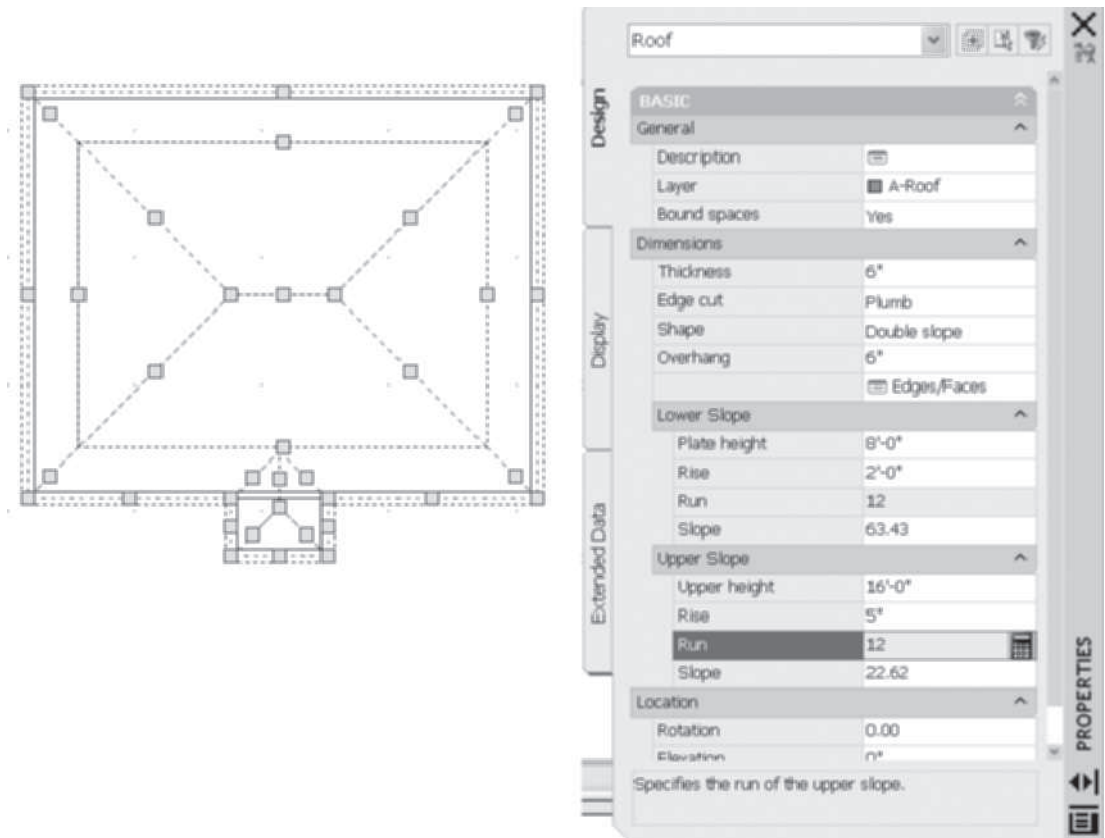

FIGURE 7.18 Properties of roof defined
6. Convert the Hip roof to the Gambrel shape by editing the Properties palette. Select the roof and edit the Properties palette as follows: Basic: Layer = **A-Roof [A270G]**, Dimensions: Thickness = **6 [150]**, Edge cut = **Plumb**, Shape = **Double slope**, Overhang = **6 [150]**, Lower Slope: Plate height = **8' [2400]**, Rise = **24 [200]**, Upper Slope: Upper height = **16' [4800]**, Rise = **5 [40]**, as shown in Figure 7.18.